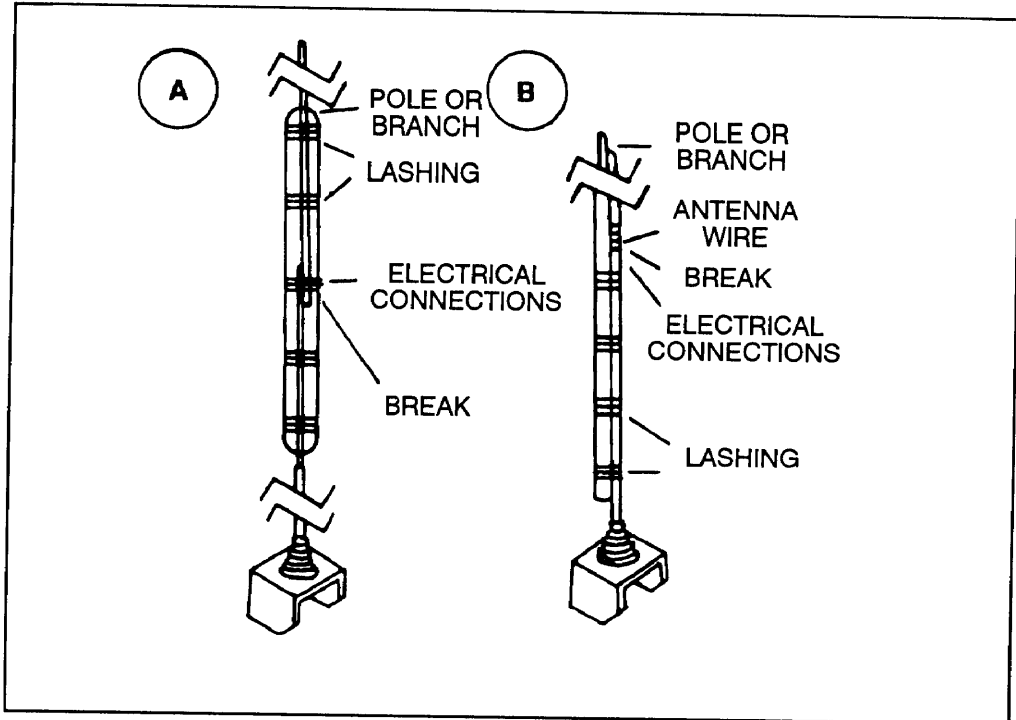

Figure D-13. Using broken sections for emergency repair.
(1) If the whip is broken in two sections, the operator can join the sections. First, the radio operator removes the paint and cleans the sections where they join to ensure a good electrical connection. He places the sections together and secures them with bare wire or tape. (See Figure D-13, page D-16.)